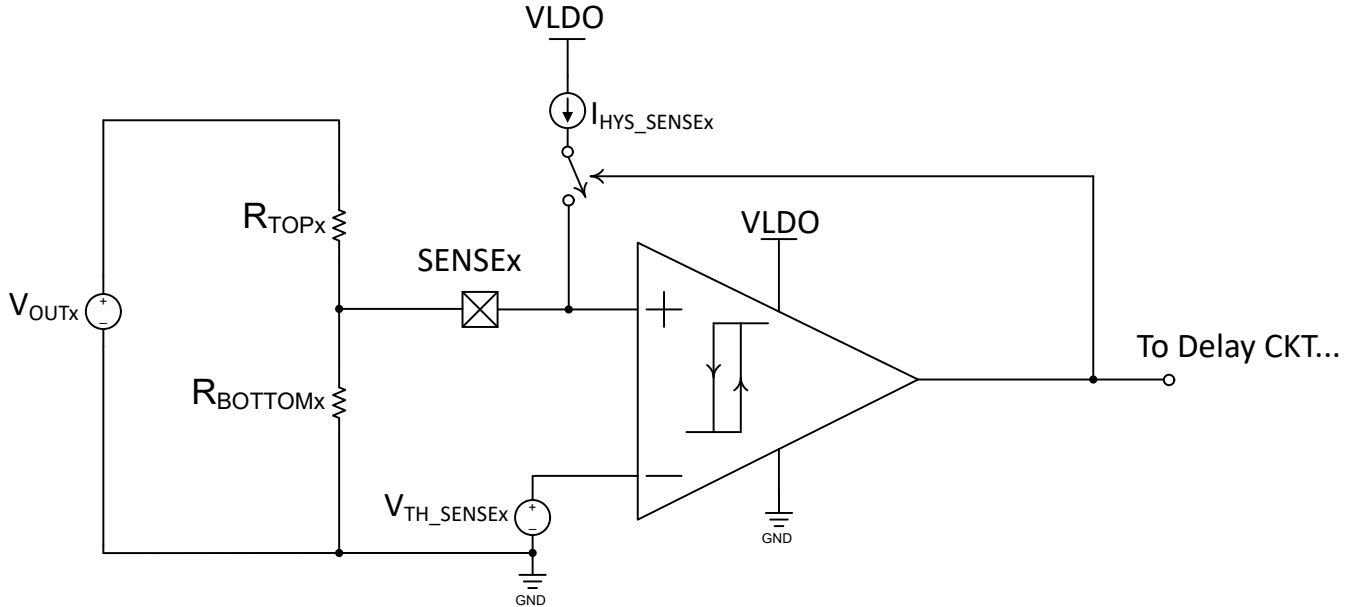

Figure 8-2. SENSEx Comparators Inputs
The TPS7H3014 sequencer integrates four under-voltage (UV) comparators, with an accurate ($\pm 1\%$) threshold voltage (V_{TH_SENSEX}) of 599mV nominal. V_{TH_SENSEX} is measured at the ENx outputs to account for comparator offsets in the threshold. Maximum flexibility is provided as external resistive dividers can be adjusted to sense any voltage rail (V_{OUTx}). Figure 8-2 shows a conceptual diagram of the comparators connected to the SENSEx inputs. As can be observed, the sensed voltage rail (V_{OUTx}) is attenuated (using an external resistive divider, R_{TOPx} and $R_{BOTTOMx}$) and compared against the V_{TH_SENSEX} voltage. It is recommended to maintain the steady-state SENSEx voltage below 1.6V, in order to maintain the threshold (V_{TH_SENSEX}) accuracy.
This current is mirrored internally across all SENSEx inputs. This hysteresis current becomes active when the SENSEx voltage is greater than the threshold voltage (599mV $\pm 1\%$), same as $V_{OUTx} > V_{ONx}$ (Refer to Equation 3 and Figure 8-2). This current (I_{HYS}) multiplied by the R_{TOPx} resistance induces a voltage (V_{HYSx}) that is added to the SENSEx node, effectively boosting (incrementing) the node voltage. During sequence down, or an undervoltage event when the V_{OUTx} is decrementing, it will need to drop below the V_{OFF} voltage in order to be considered as an out of regulation (or fault). The hysteresis voltage is defined as: